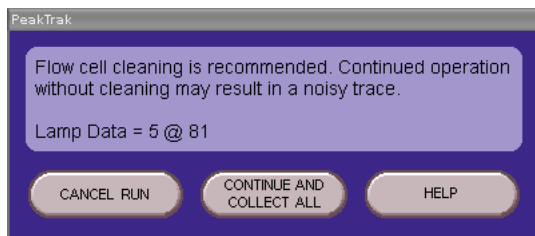

Figure 8-4 Flow cell cleaning message
- frequent messages recommending flow cell cleaning (Figure 8-4).
When the lamp energy is lower than normal, the system will recommend flow cell cleaning (Figure 8-4) before starting a separation run.
When the indicator is in the yellow, the lamp energy and flow cell are ready for the next run. However, continuing the cleaning for greater raw lamp energy should reduce the frequency of flow cell cleaning messages (Figure 8-4).